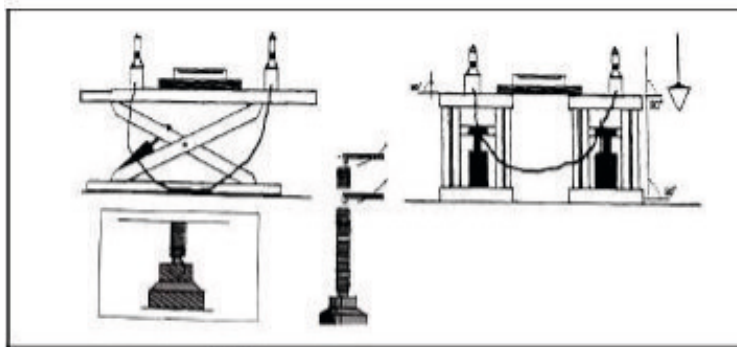

Fig 23
- Check that the left and right platforms are level laterally and longitudinally, using a transparent leveling tube or level indicator (Fig. 23).